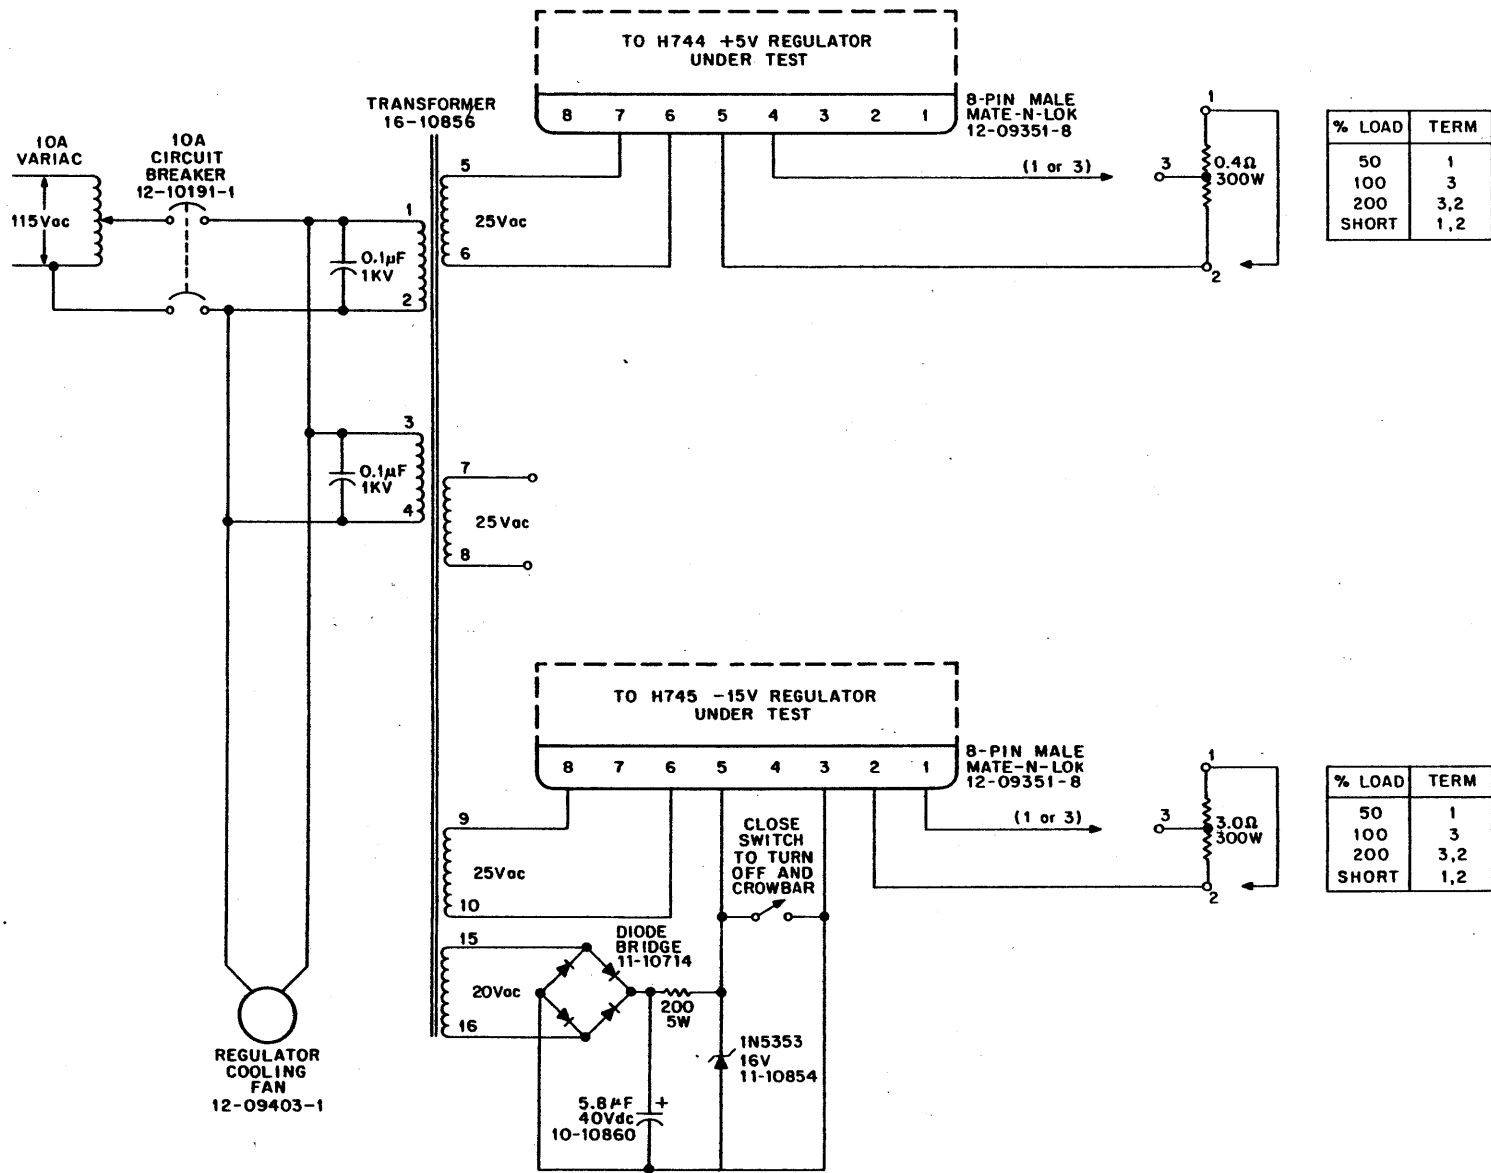

Figure 5-8 Voltage Regulator Test Bench Source and Loads
5.5.2.1 Recommended Test Bench Source – Figure 5-8 shows a recommended test bench source that can be fabricated from standard parts used for voltage regulator bench tests. Figure 5-8 also shows the test bench loads used to test the voltage regulator outputs under various load conditions. No additional test equipment or special tools are required other than those listed in Table 5-1.